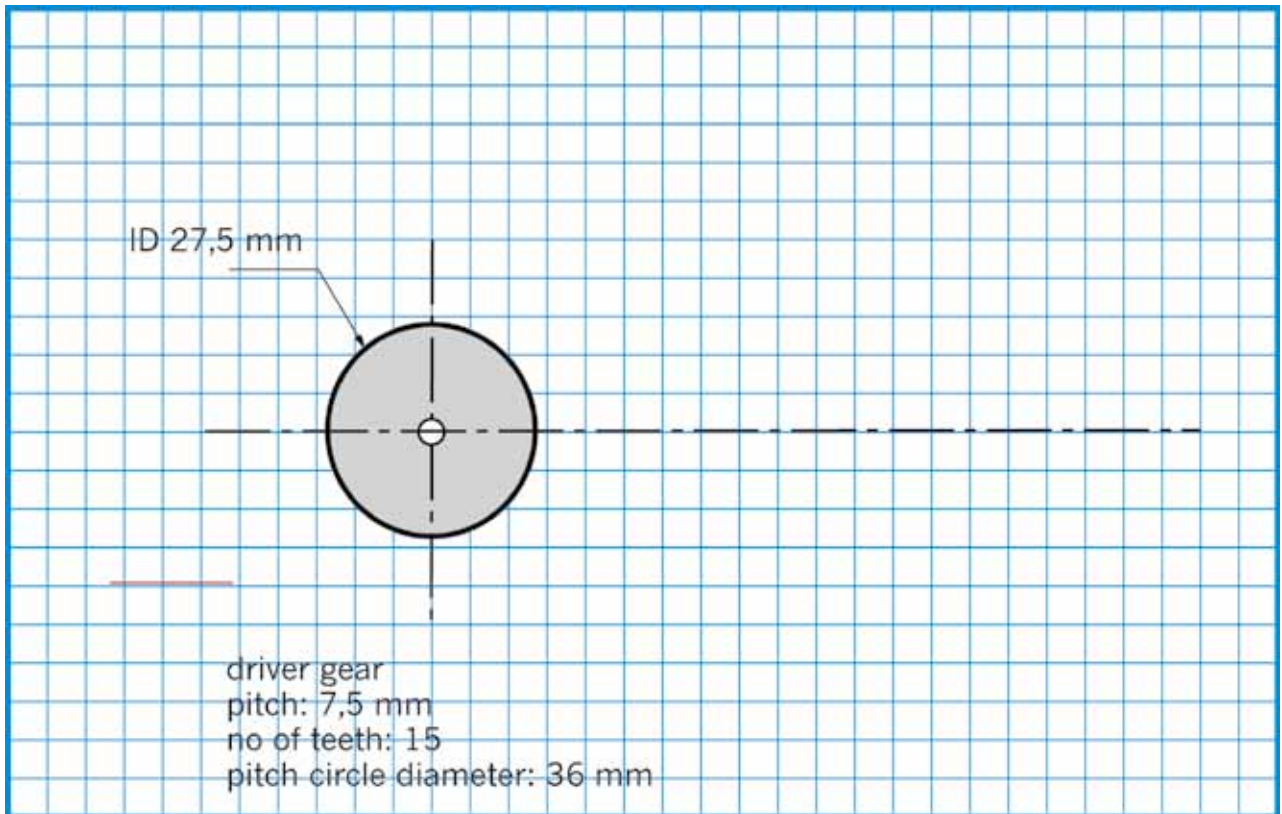

Figure 8: Draw the driven gear on the grid.
- **Step 6:** Use your compass to draw in the inside diameter (ID) and outside diameter (OD) circles.
1. Use the steps on the previous page to draw a gear system with 15 teeth on a driver gear with a 36 mm diameter and 30 teeth on a driven gear with a 72 mm diameter. Use the grid paper in Figure 8. The driver gear drawing has been started for you.